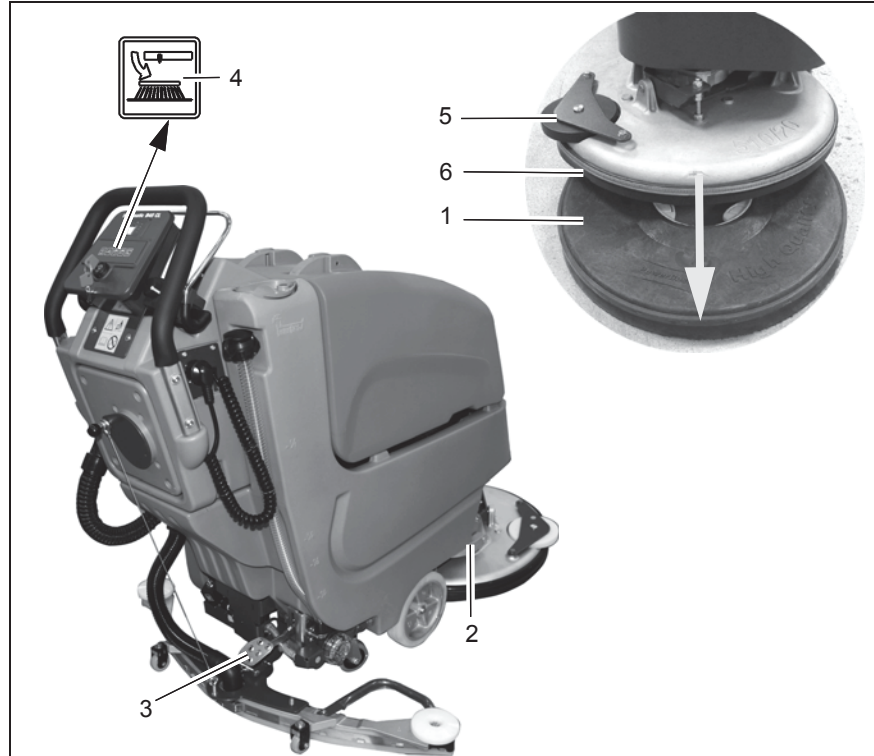

Fig.14
Check the brushes (Fig. 14/1) in the brush head (Fig. 14/2) weekly for signs of wear. In the case of wear to a brush length of 1.5 cm, the brushes must be changed.
Raise the brush head using the lever (Fig. 14/3). Press the button (Fig. 14/4) for approx. 5 seconds when the brush head is raised. Brush ejection is indicated in the indicator field by four icons which light up successively.
Check the deflector roller (Fig. 14/5) weekly and change it as necessary.
Check the sealing strip (Fig. 14/6) weekly and change it as necessary. To do this, loosen the fastening device and remove the sealing strip. Installation is carried out in the reverse sequence.
Clean the brushes in the brush head (Fig. 14/2) daily or as necessary.
1. Raise the brush head using the pedal (Fig. 14/1).
2. Press the brush ejectors (Fig. 14/5) downward and remove the brushes to clean them.
Check the brushes (Fig. 14/4) in the brush head weekly for signs of wear. In the case of wear to a brush length of 1.5 cm, the brushes must be changed.
2. Press the brush ejectors (Fig. 14/5) downward and remove the brushes
Check the deflector roller (Fig. 14/3) weekly and change it as necessary.
Check the sealing strip (Fig. 14/5) weekly and change it as necessary. To do this, loosen the fastening device and remove the sealing strip. Installation is carried out in the reverse sequence.